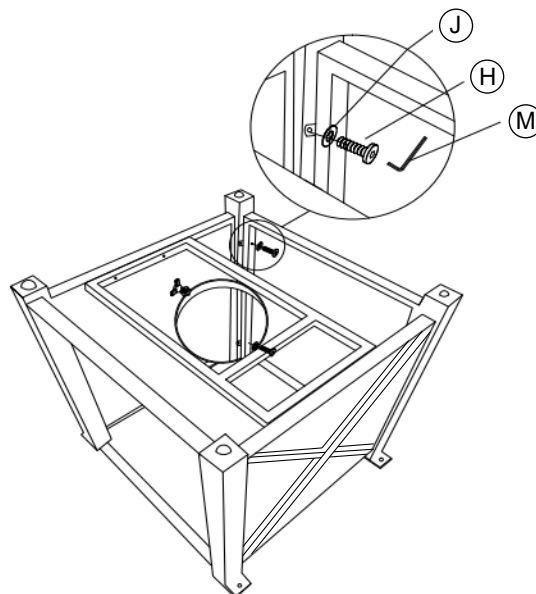

Figure 1
1. Attach the left side (c),right side(D),and back (E) with 8 bolts M6*20mm (H) and 8 flat washer (J) by using the allen wrench (M) as shown on the right,(see figure1).